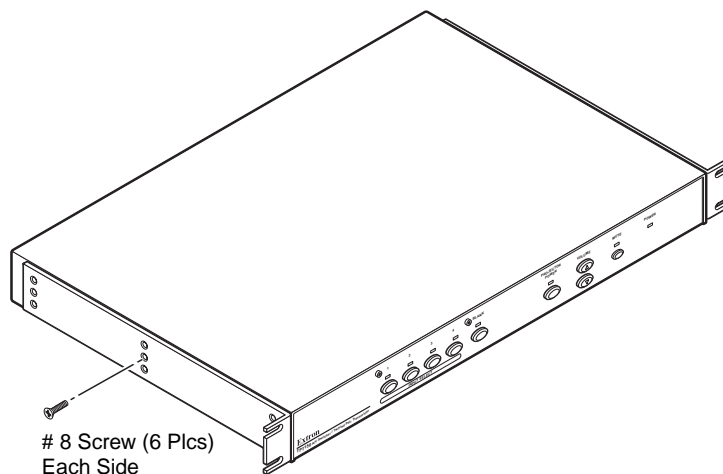

Figure 2-1 — Mounting the transmitter
The following Underwriters Laboratories (UL) requirements pertain to the installation of the transmitter into a rack (figure 2-1).
2. Attach the 992546-2 rack mounting ears to the transmitter with the six provided #8 machine screws (figure 2-1).